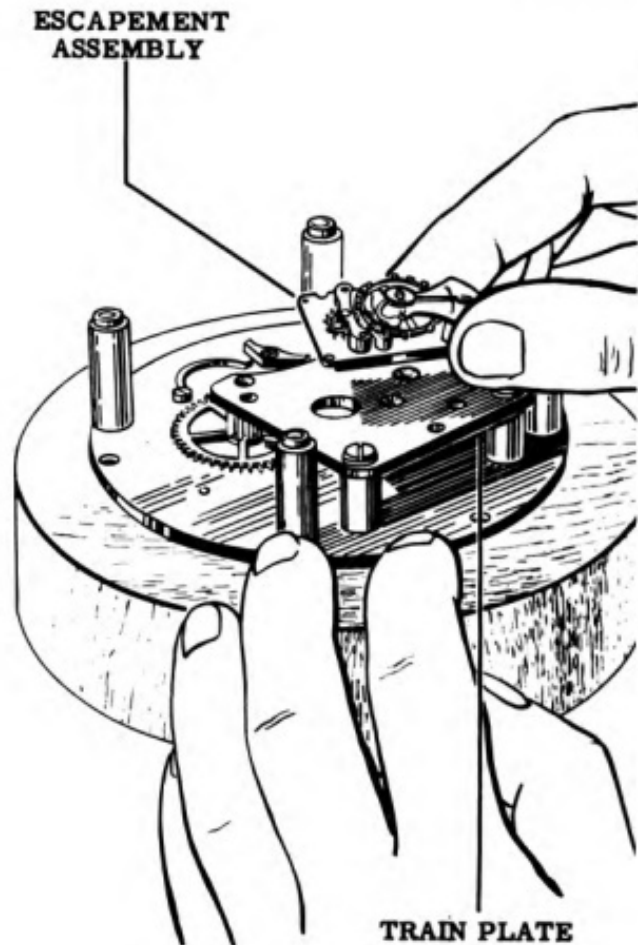

Figure 36
16. Unscrew the two escapement mounting screws and lift off the escapement as shown in Fig. 36. Set the escapement aside for separate disassembly.